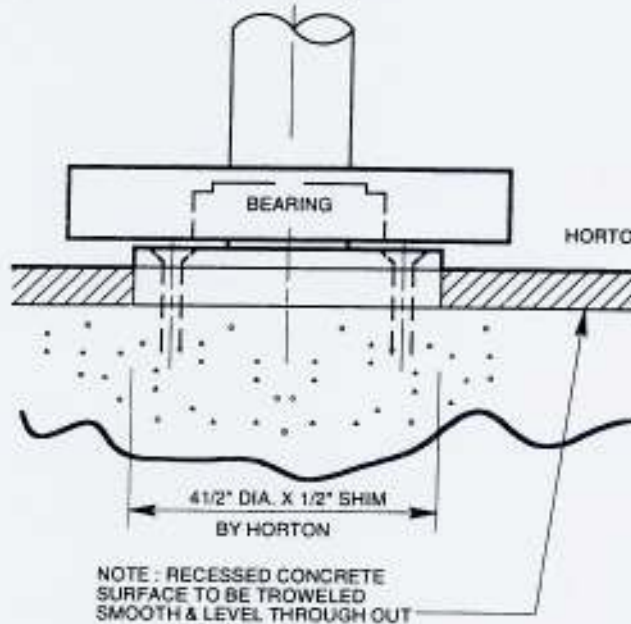

Figure 29 - Recessed Mat
- ROUND PUSH BAR INSTALLATION** - Prep door wings (3'-9 7/8" from finish floor) for $\frac{1}{4}"-20$ Thru Bolt & $\frac{1}{4}"-20$ Cone Head Machine Screw (See Figure 29 above).
- A. When mats are installed, a 1/2" alum. shim must be placed below the center pivot. Shim should be installed at the same time that center pivot is installed (See Section 10 on G917.8). After center pivot & shim are in place, install mat sections prior to proceeding with installation of center shaft and door wings (Figures 29,30 & 31 on this page).